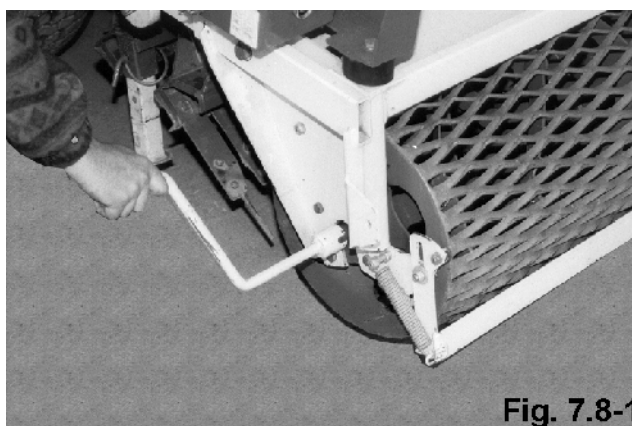

Fig. 7.8-1
- Place the calibration crank on the left end of the roller shaft (Fig. 7.8-1)